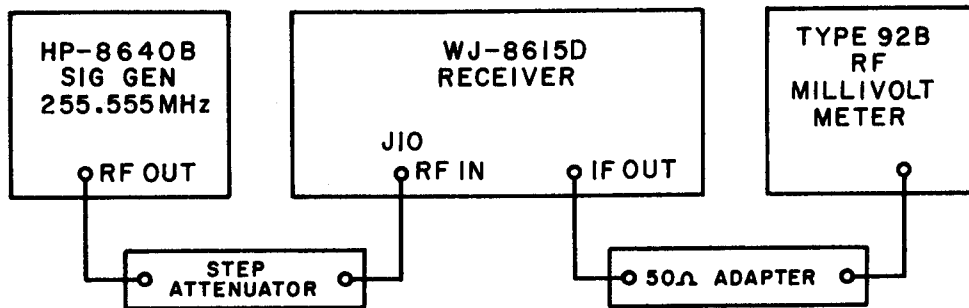

Figure 4-1. IF Amplifier Performance Test, Equipment Connections
- 1) Connect the test equipment as illustrated in **Figure 4-1**.